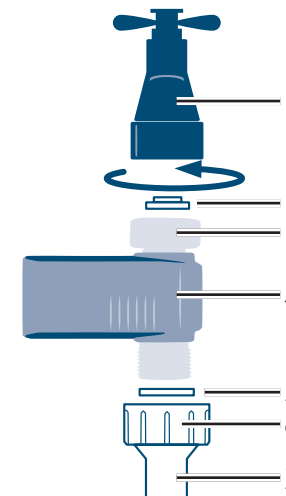

Figure 4 Connecting the solenoid valve
7. Screw the solenoid valve (item 4, **Figure 4**) incl. pre-filter (item 2, **Figure 4**) with the union nut (item 3, **Figure 4**) to the water supply (item 1, **Figure 4**).
8. Screw the hose of the device (item 7, **Figure 4**) to the other side of the solenoid valve using the union nut (item 6, **Figure 4**) and a suitable seal (item 5, **Figure 4**).